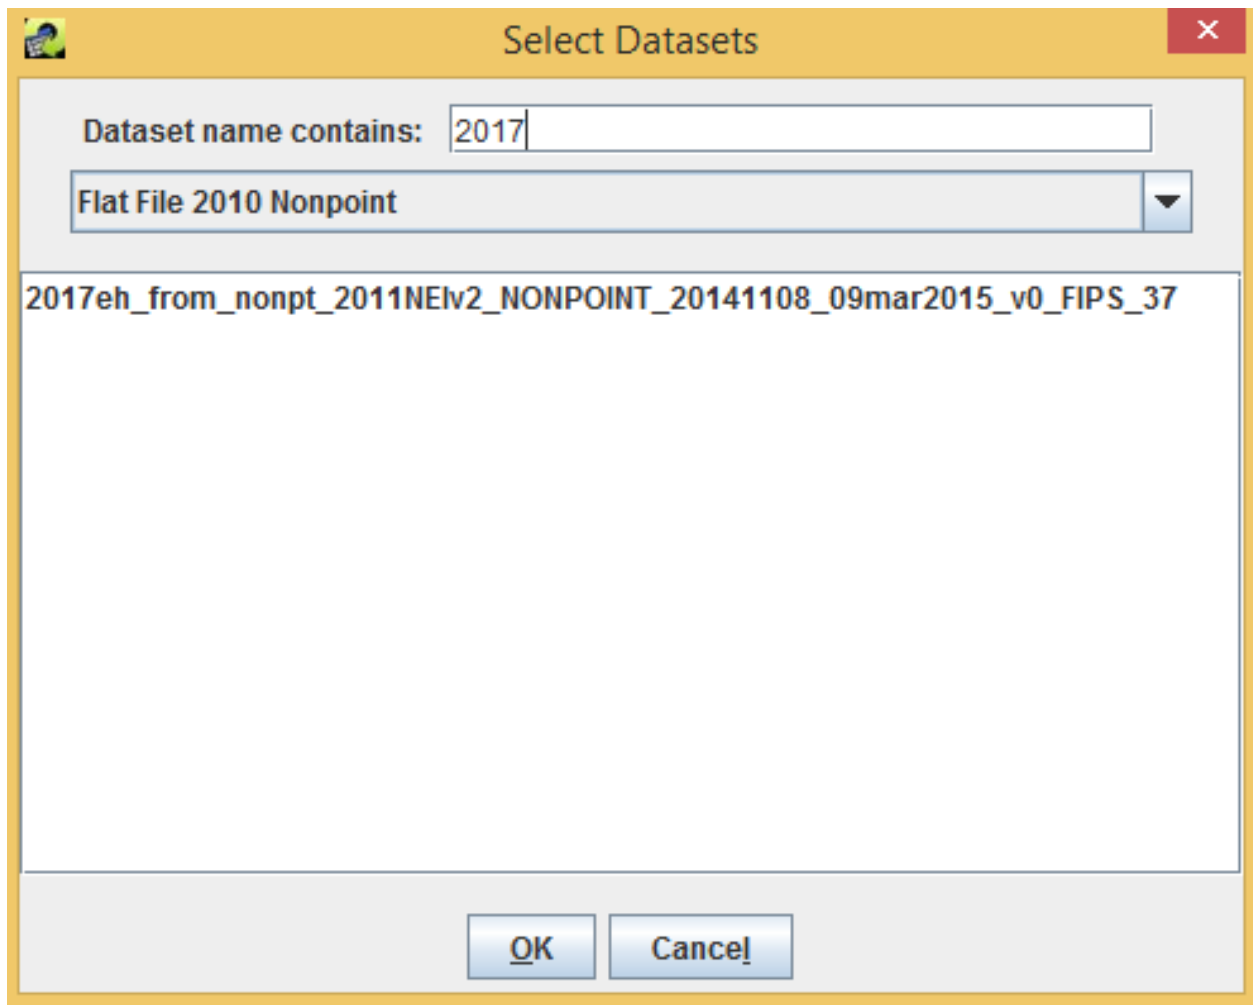

Figure 4.8: Selecting Inventory Datasets for a Control Strategy
**Step 4-11: Add an Inventory to Control Strategy.** To add one or more inventories to the **Inventories to Process** table for the control strategy, click the **Add** button on the **Inventories** tab. From the **Select Datasets** window that appears, use the **Choose a dataset** type pull-down menu to select the type of inventory to add (e.g., Flat File 2010 Nonpoint). The file browser will display the inventories of the specified type (Figure 4.8). If there are many inventories in the list, narrow down the list (e.g., to find inventories for 2017) by entering a search string in the **Dataset name contains** field and pressing the **Enter** key on your keyboard.